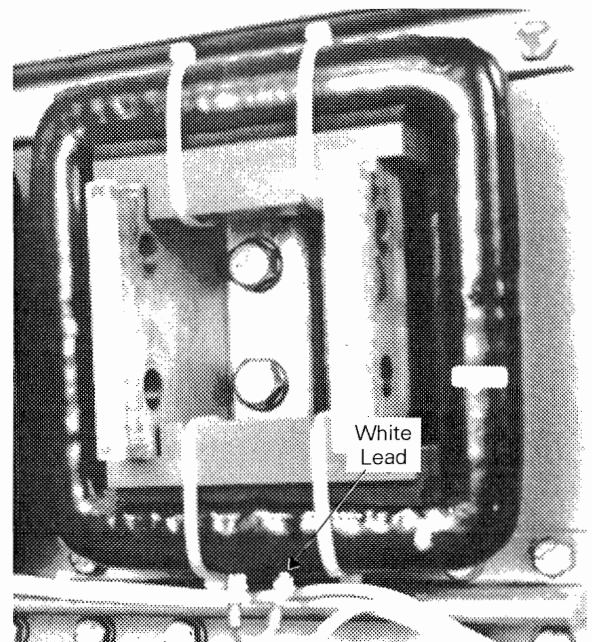

Figure 19. Mounting and wiring the current sensors.
2. Mount the new CTs onto the bare stabs with the terminals pointing down, as shown in Figure 19.
3. Connect the CT leads to the CTs, attaching the white lead to the terminal indicated by the white dot, as shown in Figure 19. The leads are labeled with the letter of the corresponding pole (A is the right pole from rear of the breaker, B is the center pole, C is the left pole), and are also cut to the appropriate lengths.